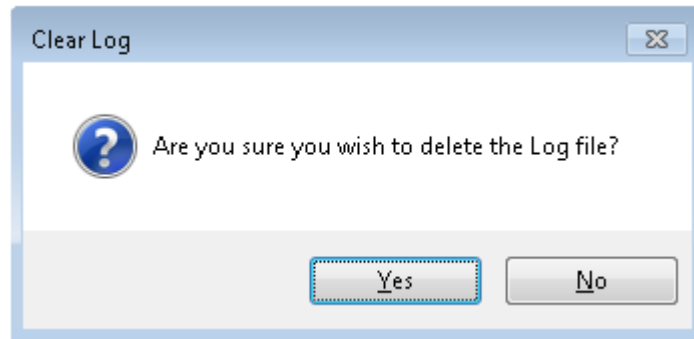

Figure 191
- The **Clear Log** warning window is displayed. See Figure 191 below: